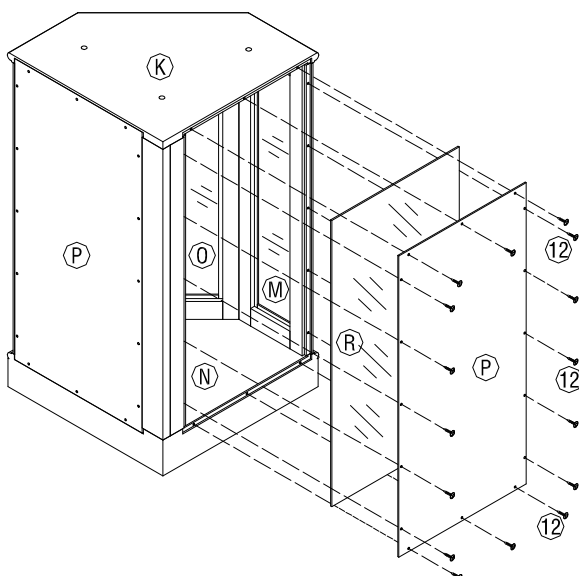

Figure 9
PLEASE BE CAREFULLY ATTACH SMALL BACK MIRROR(R) INTO GROOVES OF PARTS(I,J,K,L,M,N),AND ATTACH LOWER BACK PANELS(P) INTO SLOTS OF REAR EDGES OF PARTS(I,J,K,L,M,N).INSERT ROUND HEADSCREWS(12) THROUGH PREDRILLED HOLES ON LOWER BACK PANELS(P) AND TIGHTEN INTO CORRESPONDING HOLES ON REAR EDGES OF PARTS(I,J,K,L,M,N).AS SHOWN IN FIGURE 9.